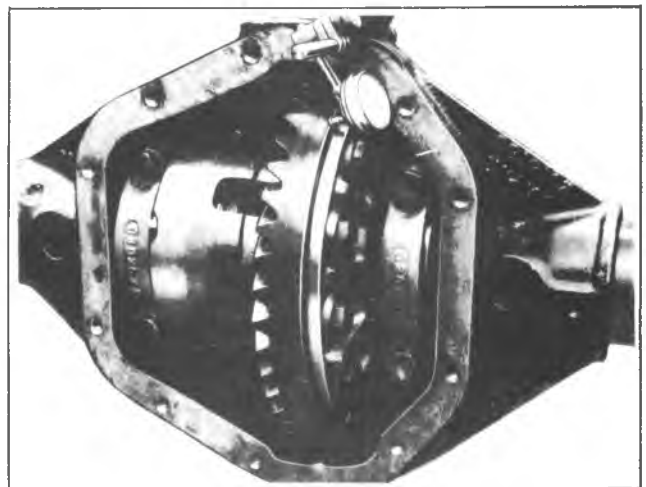

Fig. 4C-7--Checking Runout
5. Press inner pinion bearing cone and roller onto pinion shaft using Installer J-9772 on arbor press as shown in Figure 4C-9.